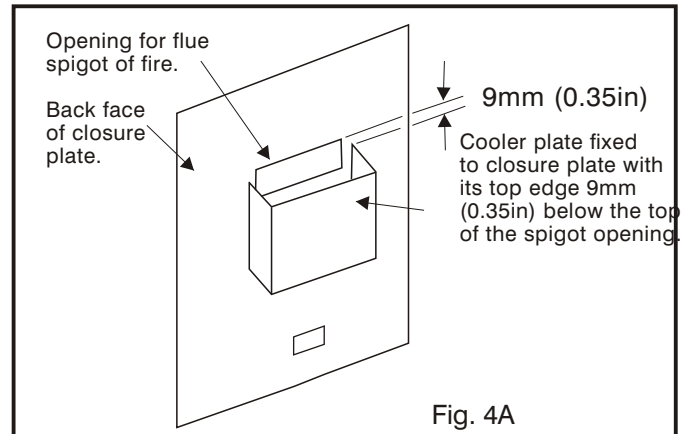

Fig. 4A
N.B.: The top edge of the cooler plate will be 9mm (0.35in) below the top edge of the spigot opening in the closure plate (Fig. 4A).